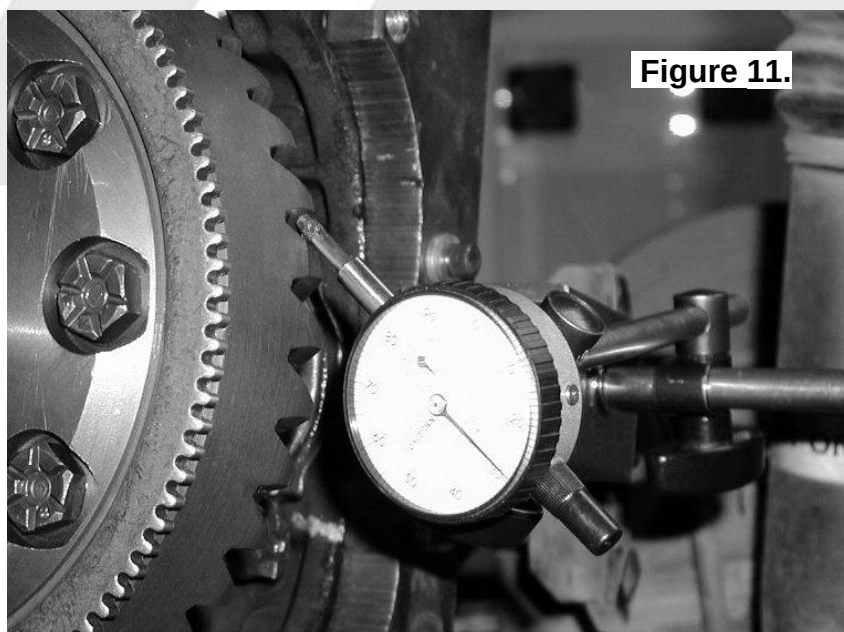

Figure 11.
- ☐ Set a depth indicator on one of the ring gear teeth. (Fig.11.)